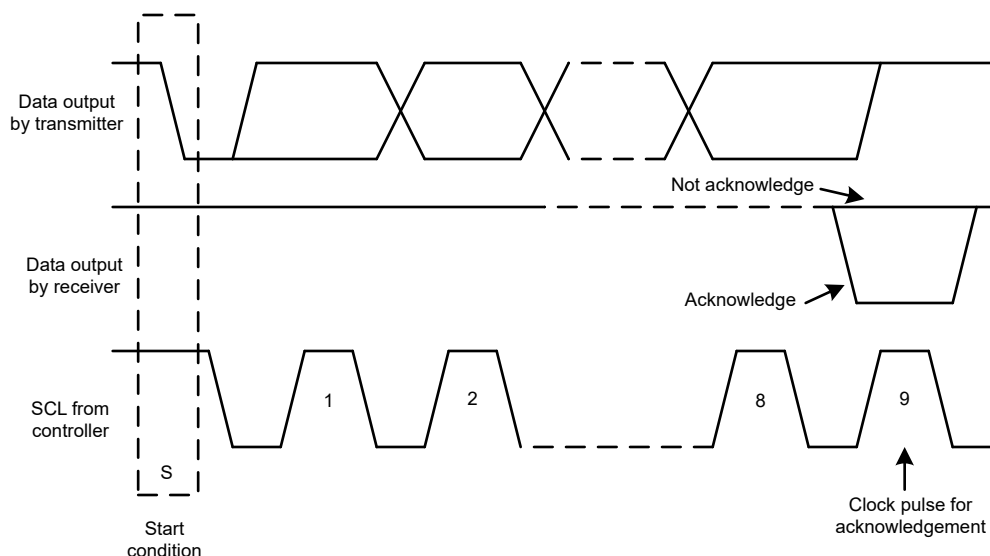
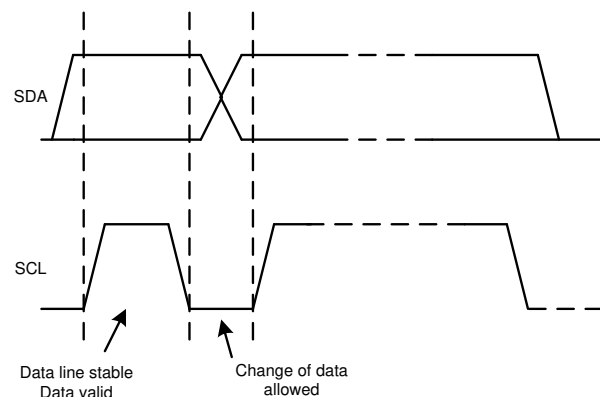

Figure 7-18. Acknowledge and Not Acknowledge on the I²C Bus
Figure 7-20. Bit Transfer on the I²C Bus
Other than specific timing signals, the I²C interface works with serial bytes. At the end of each byte, a ninth clock cycle generates and detects an acknowledge signal. An acknowledge is when the SDA line is pulled low during the high period of the ninth clock cycle. Figure 7-18 depicts a not-acknowledge, when the SDA line is left high during the high period of the ninth clock cycle.
2. The controller then generates the SCL pulses, and transmits the 7-bit address and the read/write direction bit ($R/\bar{W}$) on the SDA line. During all transmissions, the controller makes sure that data are valid. Figure 7-20 shows that a valid data condition requires the SDA line to be stable during the entire high period of the clock pulse. All devices recognize the address sent by the controller and compare the address to the respective internal fixed address. Only the target device with a matching address generates an acknowledge by pulling the SDA line low during the entire high period of the 9th SCL cycle (see also Figure 7-18). When the controller detects this acknowledge, the communication link with a target has been established.